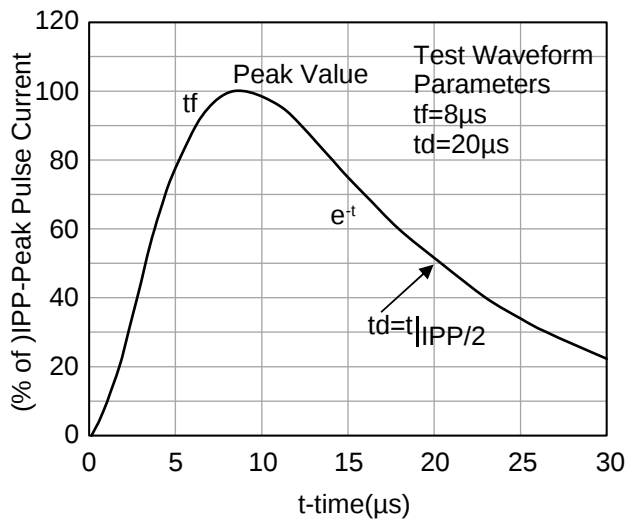

Figure 1. Pulse Waveform according to IEC 61000-4-5
1. Surge current waveform per Figure 1 according to IEC 61000-4-5.
1.Surge current waveform per Figure 1 according to IEC 61000-4-5.